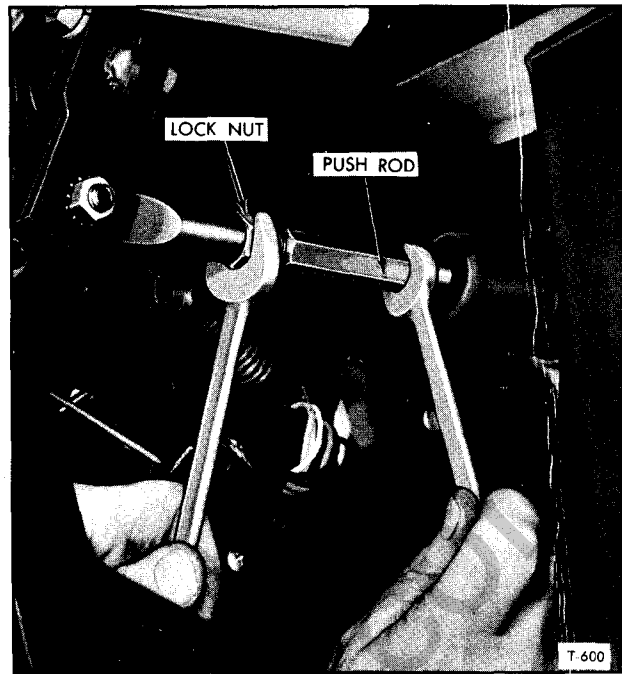

Figure 18—Adjusting Master Cylinder Push Rod (Conv. Cab Models and TM80) (Typical)
1. Loosen lock nut on master cylinder push rod assembly, then turn hex portion of push rod (fig. 18) as necessary to provide 0 to 1/16-inch clearance between push rod and master cylinder